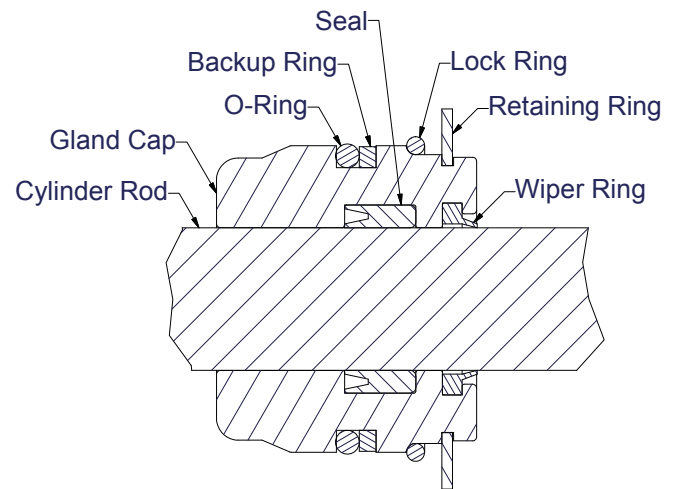

Figure 6-8, Gland Cap Seal
3. Install the seals and wipers in the gland cap. Note the direction of the seals. The cupped side or O-Ring side of the seal should be facing the piston. (Figure 6-8)